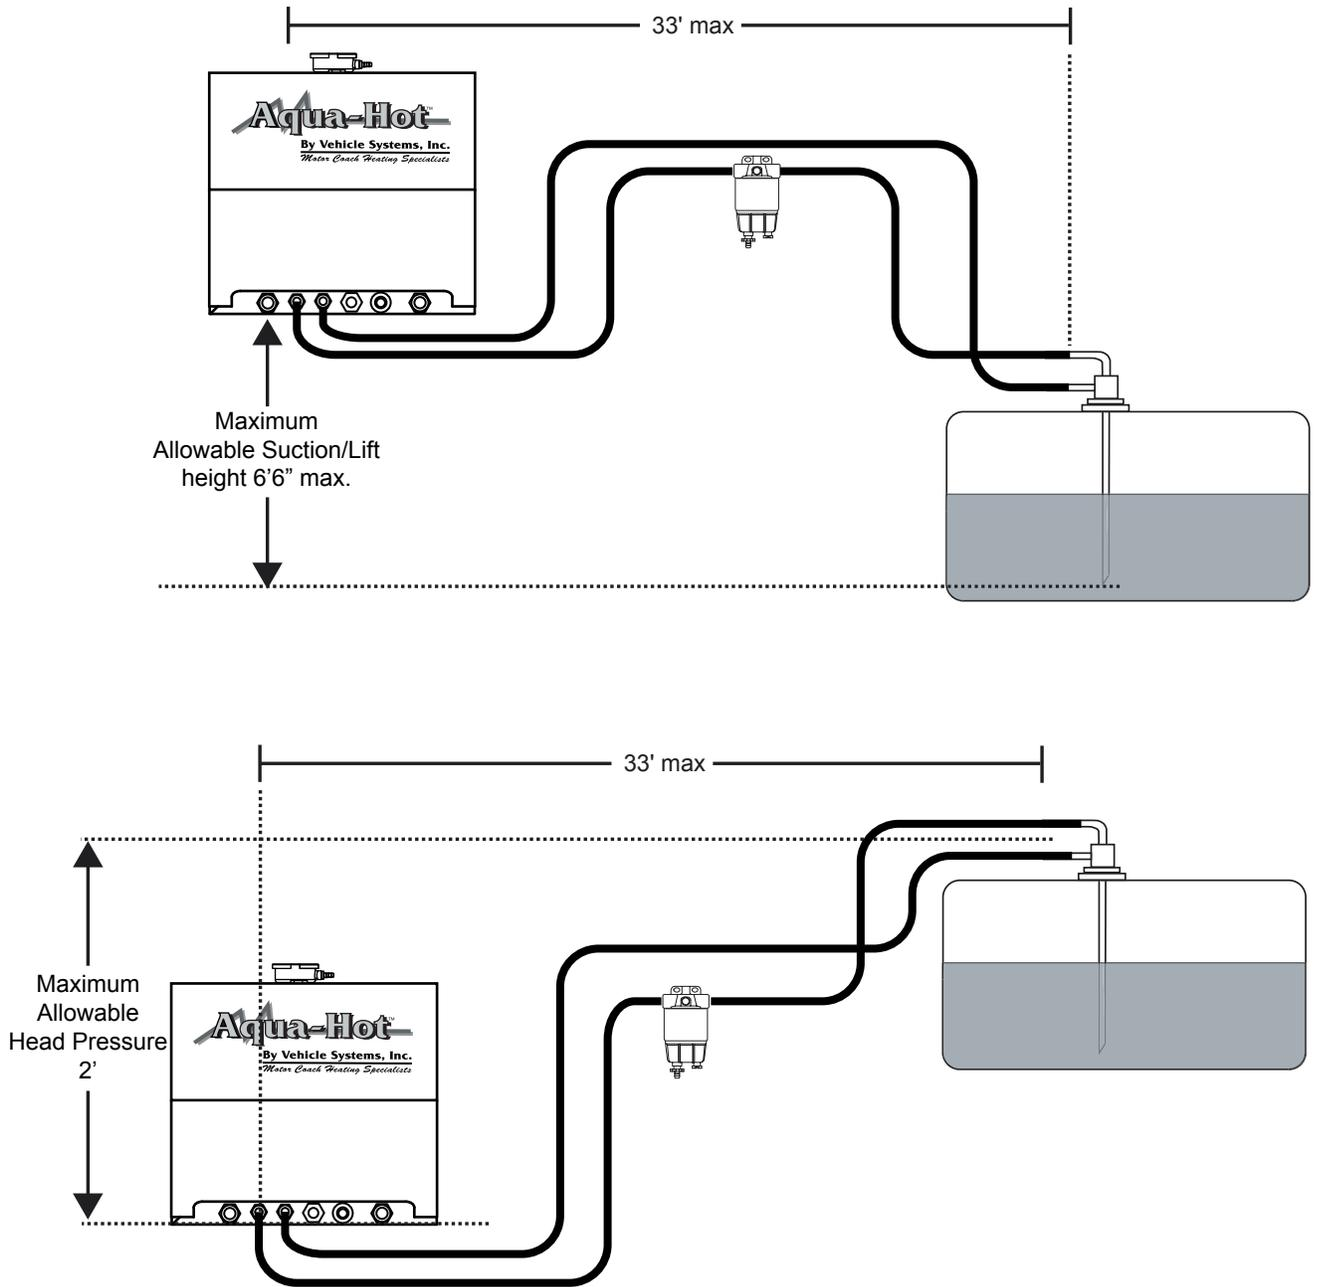

Figure 25
- B. Fuel head pressure should not exceed 2 feet; reference Figure 25.
- D. The combined length of the supply and return Fuel Lines should not exceed 66 feet in total length; reference Figure 25.